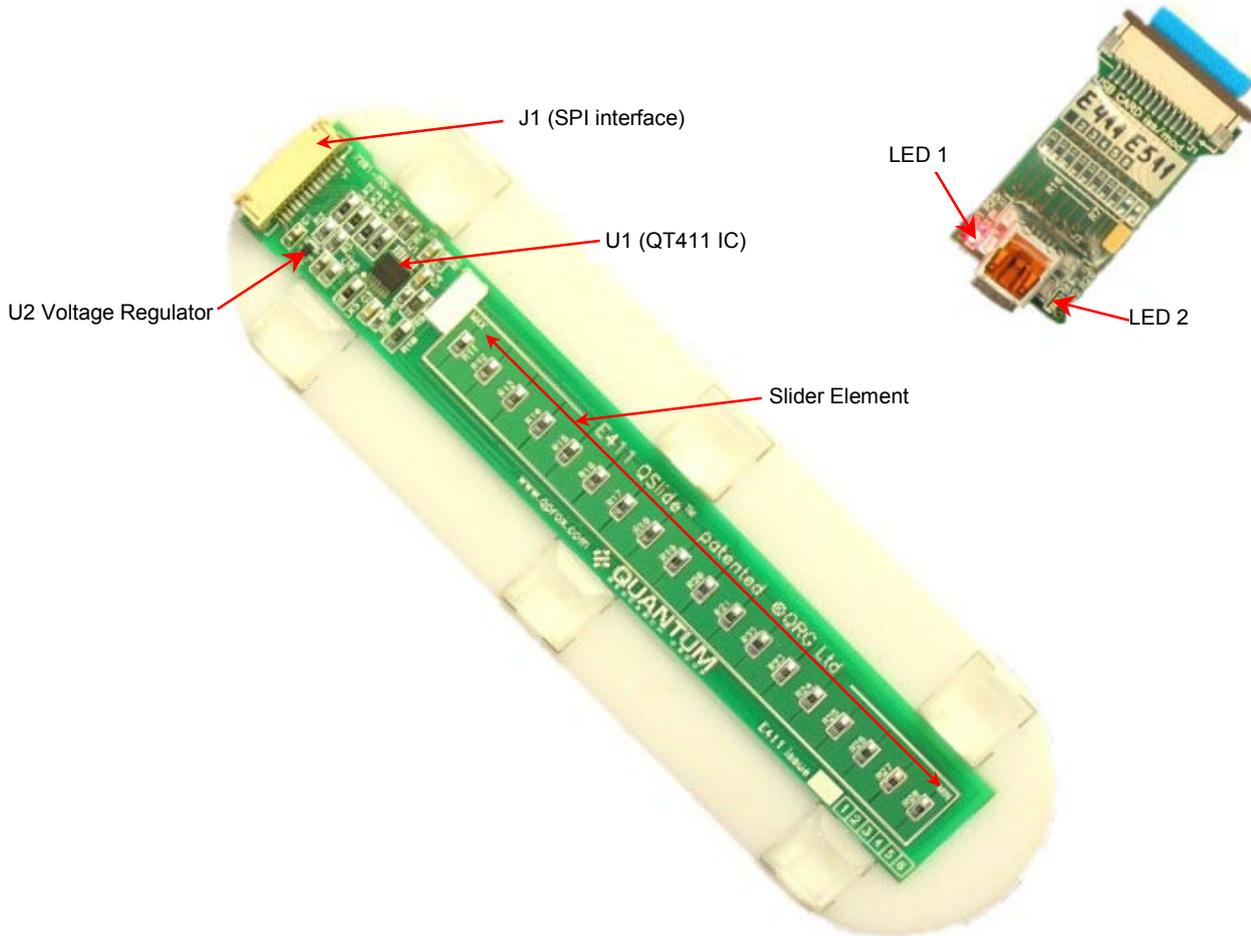

Figure 6: E411 and USB-SPI Adapter Card Assembly Details
**LED 1** (on USB card) – before the QSlide software is running, LED 1 will be on constantly, to indicate that the USB card is connected to the PC and has power (see *Figure 6*). Once the QSlide software is running, LED 1 flickers continuously to indicate that the software is communicating with the E411 assembly.
**LED 2** (on USB card) – stays on when the E411 assembly is touched, for the duration of the touch (see *Figure 6*).